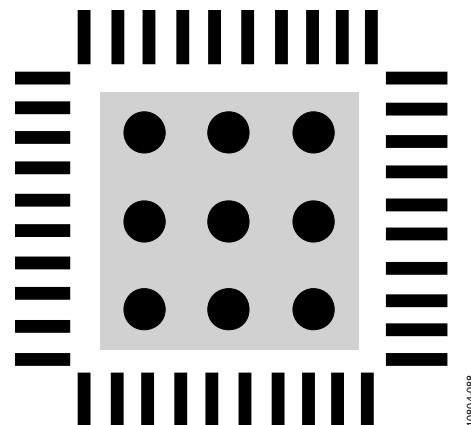

Figure 104. Exposed Pad Layout Example, Top View (Not to Scale)
- Vias should be placed to connect all layers of copper, allowing for efficient heat and energy conductivity. For an example, see Figure 104, which has nine vias arranged in a  $3 \times 3$  grid in the pad area.